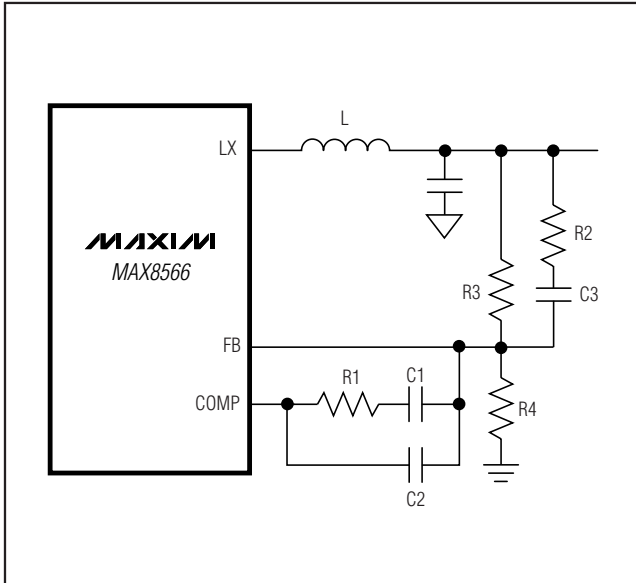

Figure 4. Type 3 Compensation Network
The high switching frequency range of the MAX8566 allows the use of ceramic output capacitors. Since the ESR of ceramic capacitors is typically very low, the frequency of the associated transfer-function zero is higher than the unity-gain crossover frequency,  $f_C$ , and the zero cannot be used to compensate for the double pole created by the output filtering inductor and capacitor. The double pole produces a gain drop of 40dB and a phase shift of 90 degrees per decade. The error amplifier must compensate for this gain drop and phase shift to achieve a stable high-bandwidth closed-loop system. Therefore, use Type 3 compensation as shown in Figure 4. Type 3 compensation possesses three poles and two zeros with the first pole,  $f_{P1\_EA}$ , located at 0 frequency (DC). Locations of other poles and zeros of the Type 3 compensation are given by:
Begin by setting the desired output voltage. The output voltage is set using a resistor-divider from the output to GND with FB at the center tap (R3 and R4 in Figure 4). Use 20kΩ for R4 and calculate R3 as: